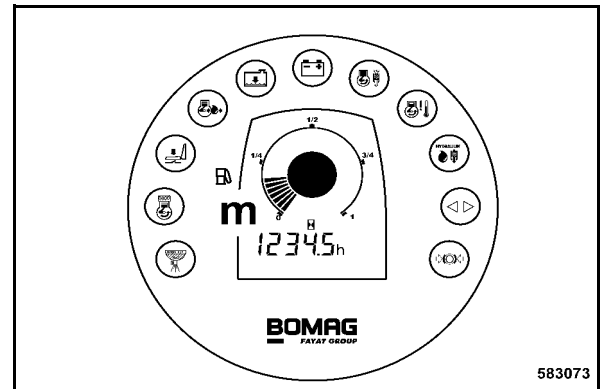

Fig. 122
- Check the fuel level on fuel gauge (m) (Fig. 122) in the instrument cluster.